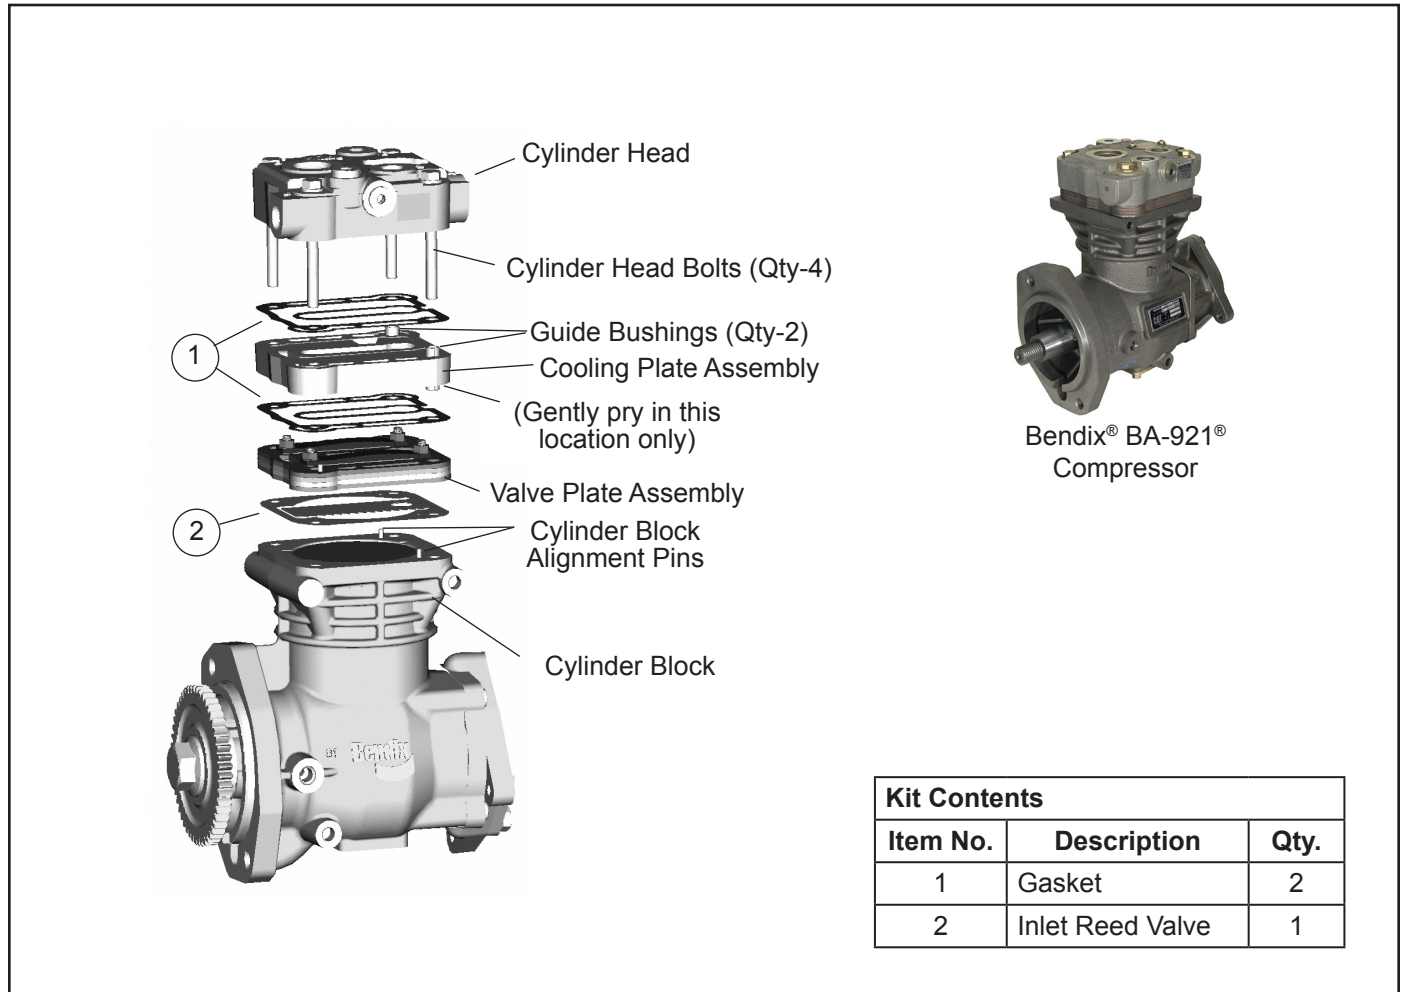

Figure 1 – Compressor Head Exploded View
- Note:** Two guide bushings are installed in the cooling plate to properly locate the cylinder head and valve plate to the cooling plate. In some cases it may be necessary to tap or gently pry the valve plate and/or cylinder head away from the cooling plate. Pry only the corner indicated in *Figure 1*. Use **EXTREME CARE** not to deeply scratch or gouge the gasket sealing surfaces of the cylinder head and cooling plate assembly.
3. Remove and discard the metal inlet reed valve/gasket (2).
4. Remove and discard the gaskets (1) from between the cylinder head and cooling plate and the cooling plate and valve plate.